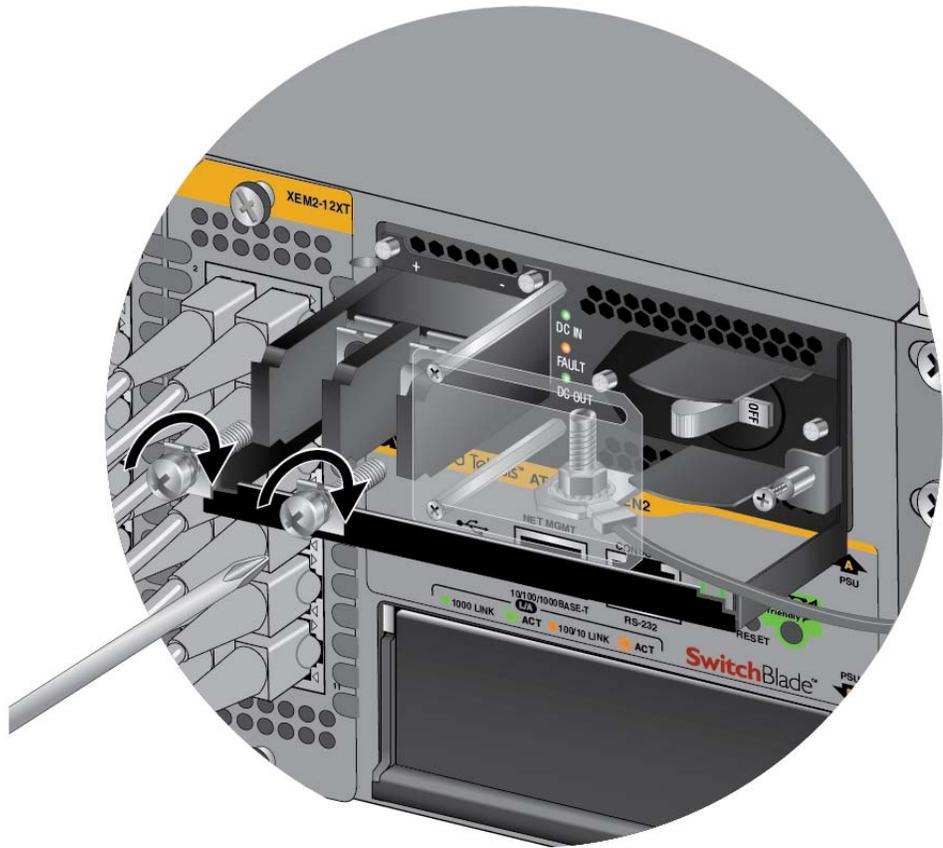

Figure 116. Reinstalling the Screws on the Positive and Negative Terminals
7. Reinstall the two screws on the negative (-) and positive (+) terminals. Refer to Figure 116 on page 195.